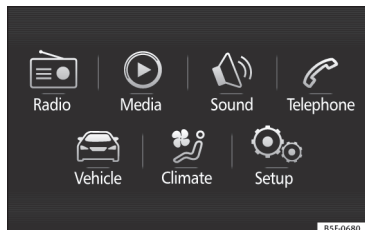
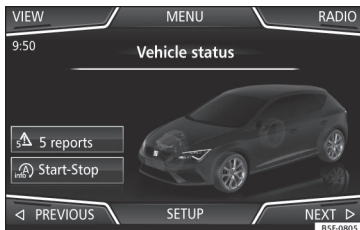

Fig. 40 Easy Connect: Main menu
Fig. 41 Easy Connect: CAR menu
- Press the system's **MENU** button and then the function button **Vehicle** » Fig. 40, or the system's **CAR** button to go to the menu **Vehicle** » Fig. 41.
- Press the function button **SETUP** to open the menu **Vehicle settings** » Fig. 41.